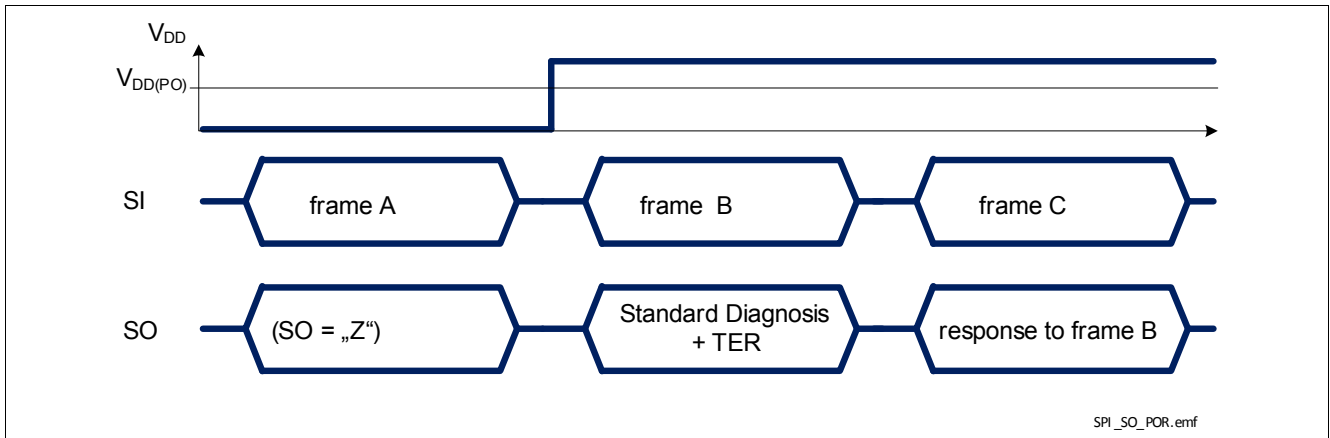

Figure 33 BTS54220-LBE response after coming out of Power-On reset at V_{DD}
- when BTS54220-LBE logic supply comes out of Power-On reset condition, as shown in Figure 33